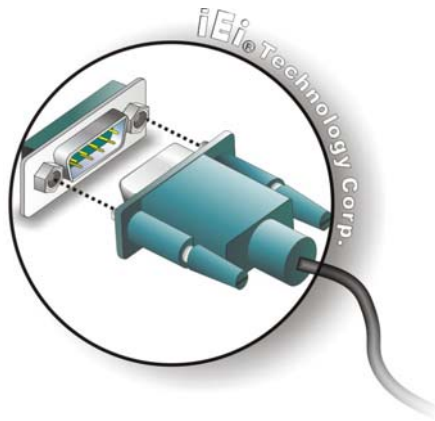

Figure 2-31: Serial Device Connector
- Step 2:** **Insert the serial connector.** Insert the DB-9 connector of a serial device into the DB-9 connector on the bottom panel. See Figure 2-31.